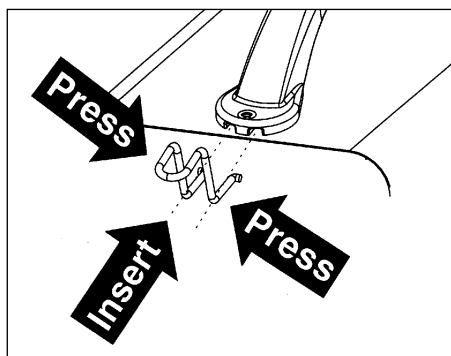

Figure 2
2. Insert cable clips by pressing inward on sides of clip and pushing into the slots on front of handle as shown in Figure 2. Repeat for opposite side of handle.